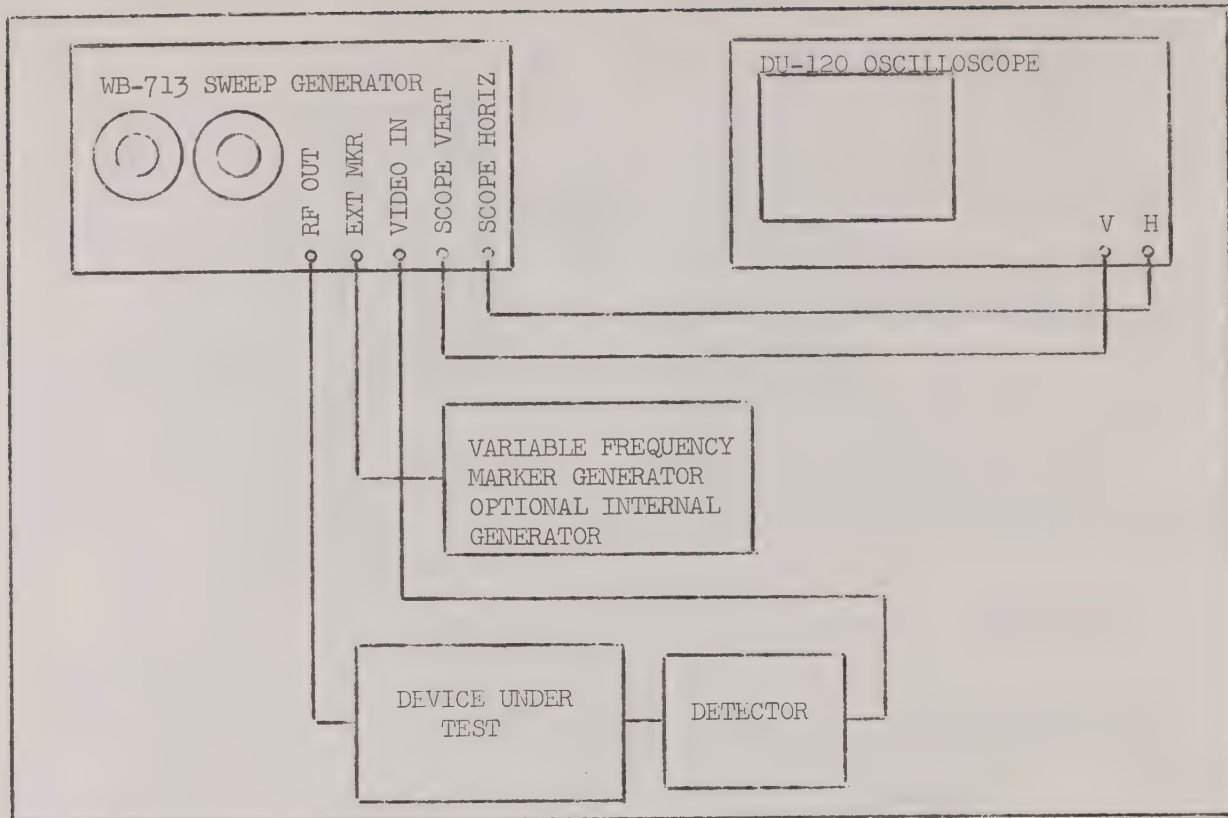

FIGURE 4-7: TEST SETUP
4.5.1 Perform the initial setup and calibration. See Figure 4-7.
Connect the test cable to the input of the video amplifier. Connect a 0 to 500 MHz signal source (such as Texscan WB-711) to the video amplifier input. The detector for the RF should be connected to the output jack of the video amplifier and displayed on the oscilloscope as in Figure 4-7. Determine a 40 dB reference level. That is, if the output of the signal source is 0.5 volt, this reference level should be marked on the oscilloscope. Then 40 dB of attenuation should be inserted between the signal source and the WB-713 video amplifier. The amplifier should be tuned in the following manner to achieve 40 dB gain across the band. Maximum flatness should be about 6 dB.